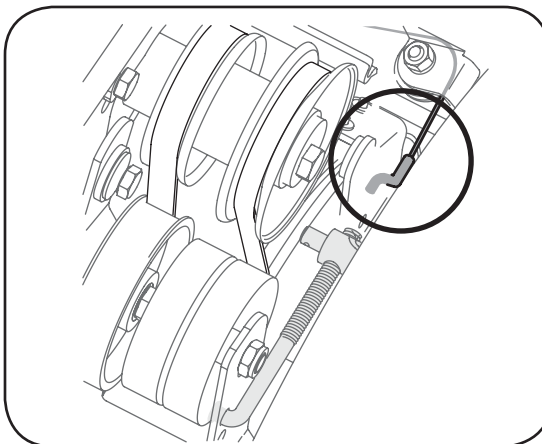

Figure 6-7
6. Pull the brake bracket assembly towards the cable guide roller and unhook the auger cable "Z" fitting. See Figure 6-7.